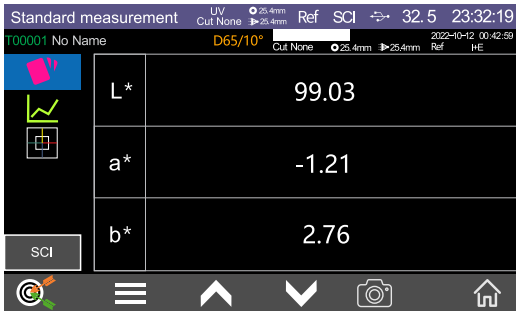

Figure 2 Standard Measurement
- 1、 Standard measurement interface in Figure 2, click  or in other interfaces click  to enter the main menu, as shown in the following figure.